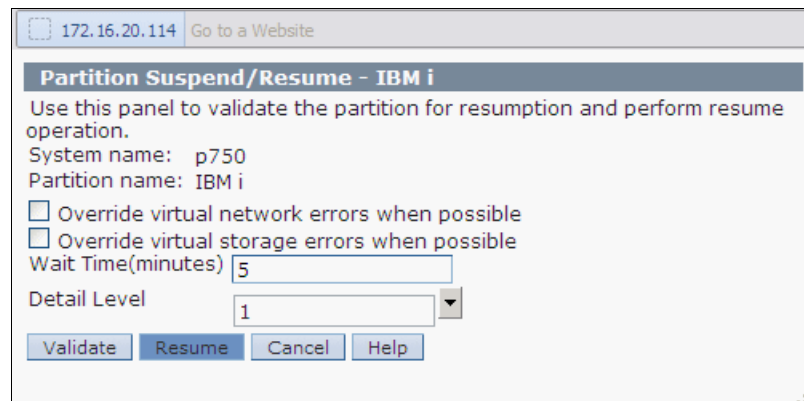

Figure 13-17 Running the Resume operation
3. Click **Resume** as shown in Figure 13-17